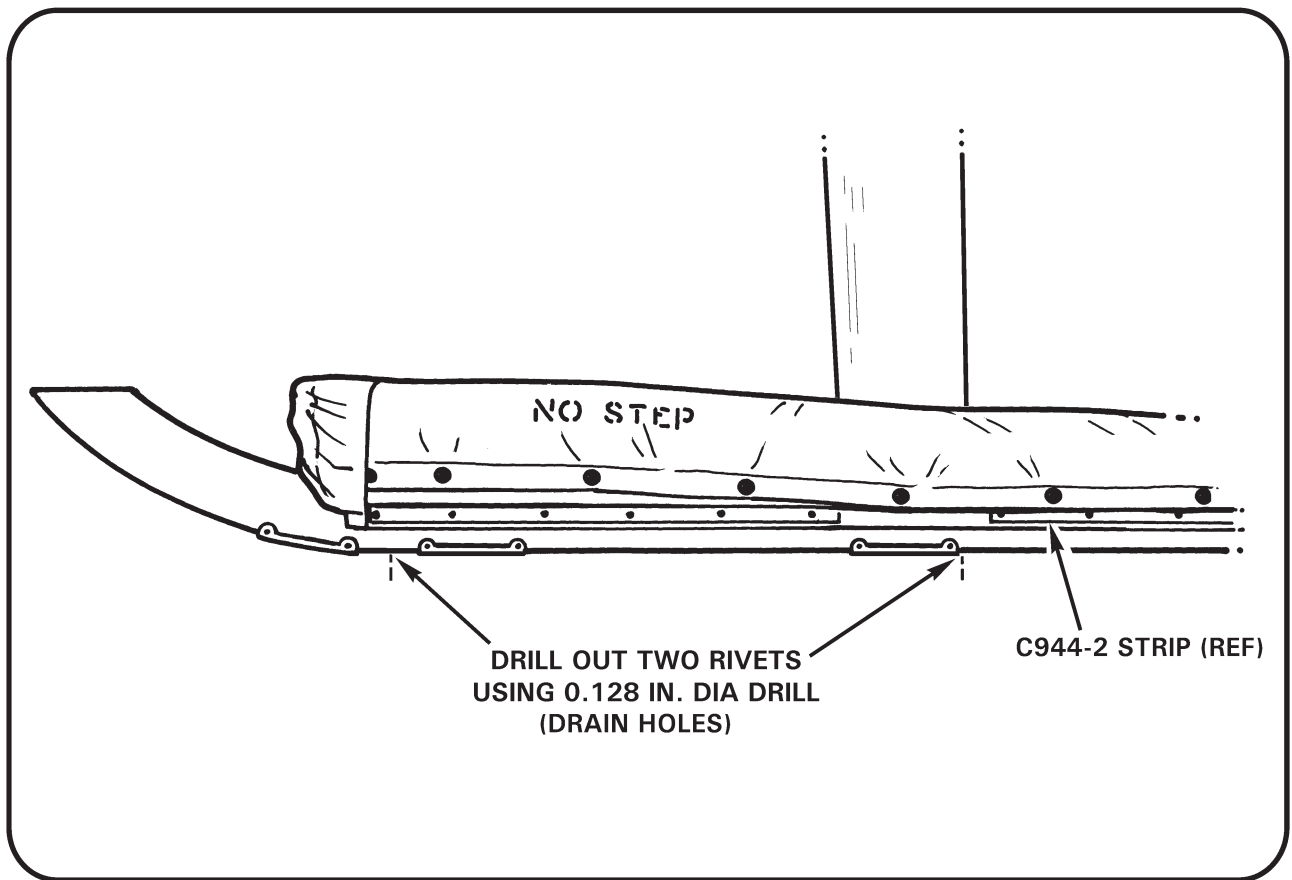

FIGURE 1
2. Refer to Figure 1. Drill out two rivets along bottom of skid tube using a 0.128-inch diameter drill bit. Remove and discard C944-2 strips and retain hardware.